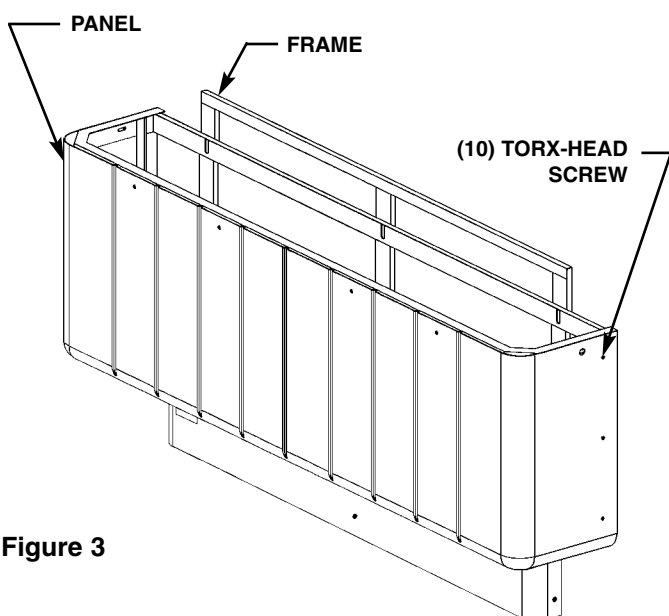

Figure 3
1. Remove the ten Torx-head screws securing the panel to the frame, and remove the panel (see Figure 3).
3. After testing is complete, reinstall panel to frame. Fasten panel with the ten Torx-head screws provided (see Figure 3 on page 8).